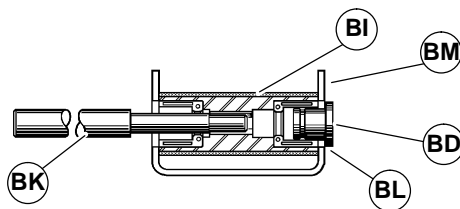

Figure 40
IMPORTANT: Do not hit retaining sleeve (BD of Figure 40) with hammer or any other tool when installing. Inspect frame bore for damage or out of roundness if retaining sleeve does not slide easily into place. Frames with worn holes should be replaced.
4. Insert retaining sleeve (BD of Figure 40) into pulley (BI). Push in until inside surface of retaining sleeve (BL) shoulder touches outside of frame (BM). Do not push shoulder of retaining sleeve into frame opening.